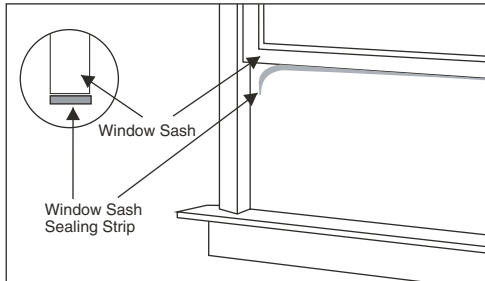

Fig. 14 – Seal Strip Adhesion
D. Cut the seal strip to fit the underside of the bottom window sash. Remove the peel-off backing on the seal and attach it to this sash. See (Fig. 14).